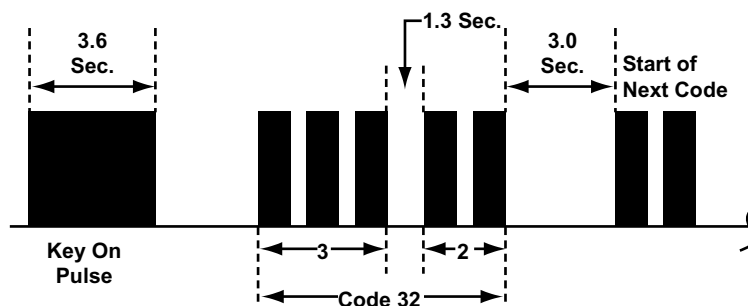

Figure 8-32 Honda ABS Code Type 06
- Type 06, see Figure 8-32 and Table 8-10 on page 80